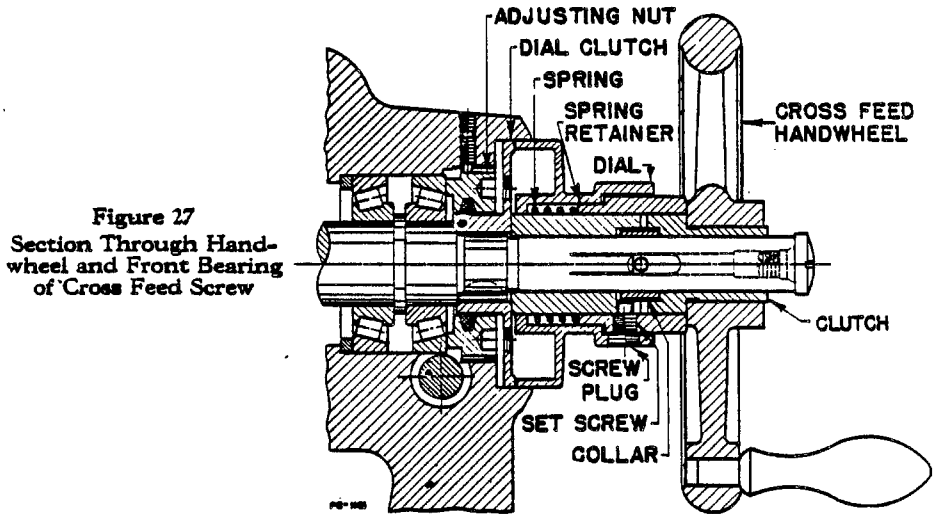

Figure 27
1. Remove the screw at the end of the cross feed screw, and remove the cross feed hand wheel (Fig. 27).